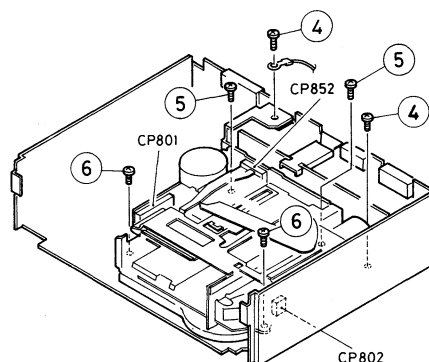

Fig. 3-4
■ Cassette Mechanism Assembly (Fig. 3-4)
■ Main PCB Assembly (Fig. 3-4 and 3-1)
5. Remove the two set screws (11) in the rear bracket.